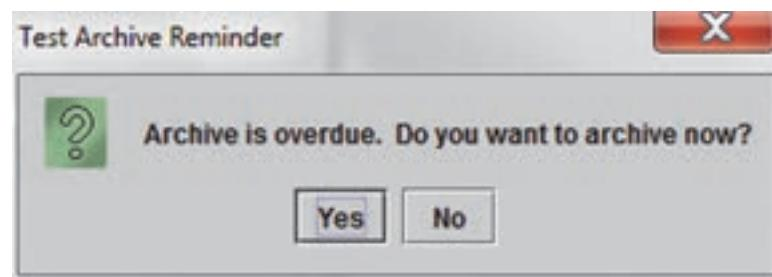

Figure 2-97. Test Archive Reminder Dialog Box
If an archive is not overdue, or if an archive setting in Figure 2-79 is **not** selected, Figure 2-97 will not appear, and you can skip directly to Section 2.17.1.2.
If an archive is overdue, the Test Archive Reminder dialog box will appear (see Figure 2-97).
- If you do not want to archive, click **No** in the Test Archive Reminder dialog box (see Figure 2-97). Continue the shutdown sequence without archiving, in Section 2.17.1.2.
- If you would like to archive, click **Yes** in the Test Archive Reminder dialog box (see Figure 2-97) to continue the shutdown sequence with archiving. The Select Test(s) To Be Archived screen appears. See Figure 2-98.